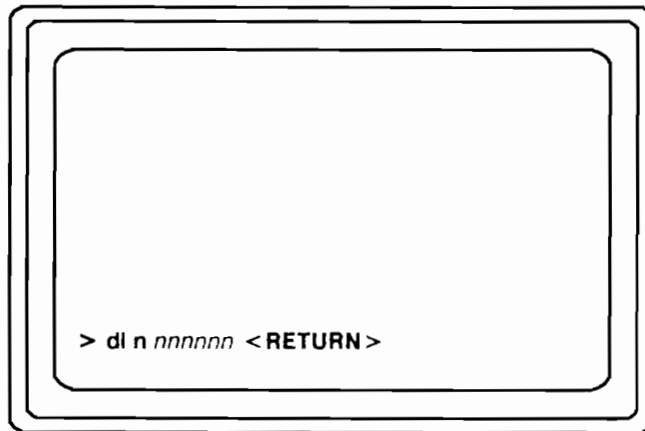

Figure 6–29. Directing the Memory Dump Across the Network
2. Type the command shown in Figure 6–29 to direct the memory dump across the network.
3. Start the memory dump by typing the command shown in Figure 6–30.